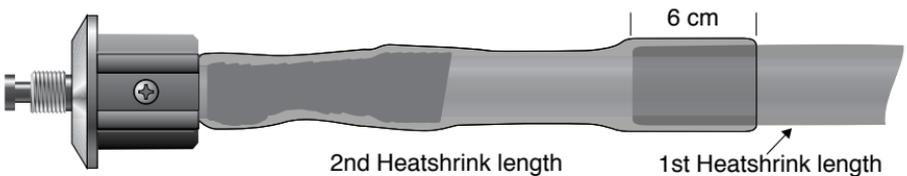

Figure 31.
11. Place the 2nd 600 mm heatshrink tube into place over the cable, again ensuring that the semi-conductive tape is not damaged, overlapping the previous heatshrink tube by approximately 6 cm. Shrink about 7 cm of the upper end of the heatshrink into place so that it will sit flush with the base of the plastic mast butt adaptor when fitted back into place. Note: That there is a mark on the lower finial connector indicating where the heatshrink needs to be fitted to. Shrink the rest of the heatshrink from the top down, ensuring that it overlaps the previous piece of heatshrink by at least 6 cm Figure 31. Ensure the rest of the heatshrink has a smooth overall finish. Note: Do not bend the cable while the heatshrink is still hot.